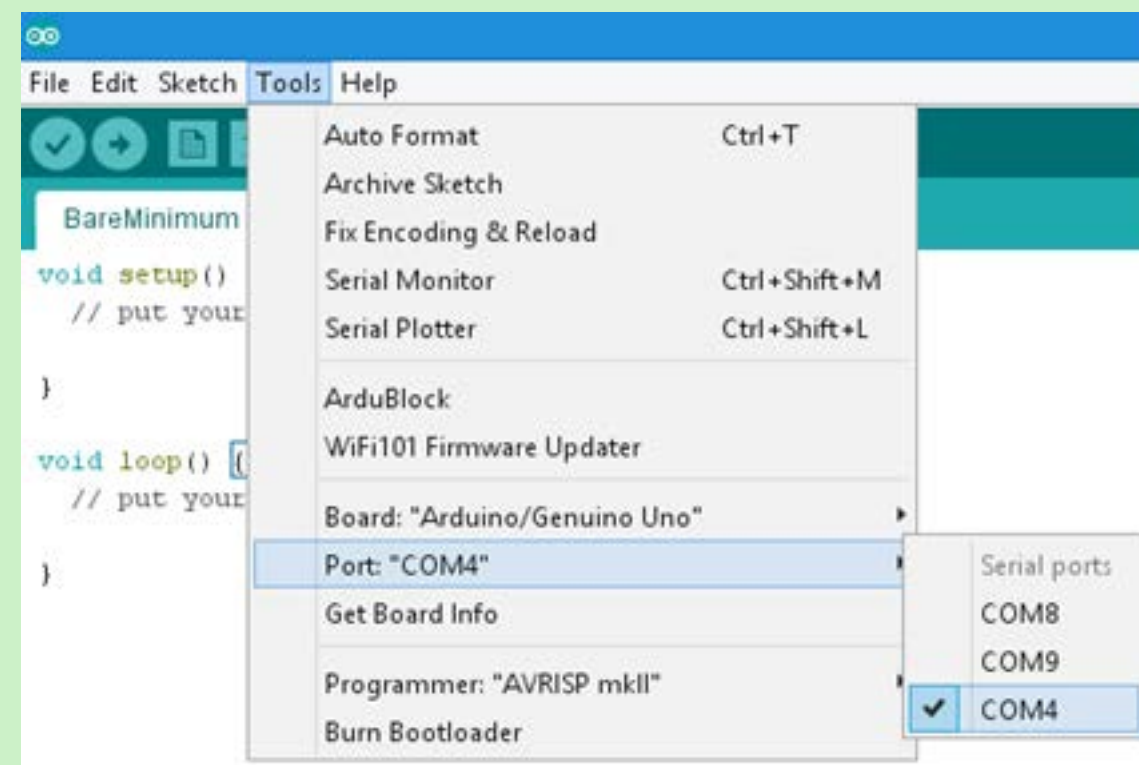

Figure 15. How to check for port connection under the Tools menu (PC screenshot)
- You should see a **tick** next to one of the *serial ports* listed (this looks slightly different on a MAC and Linux computer, but the process is much the same) [see **Figure 15**].